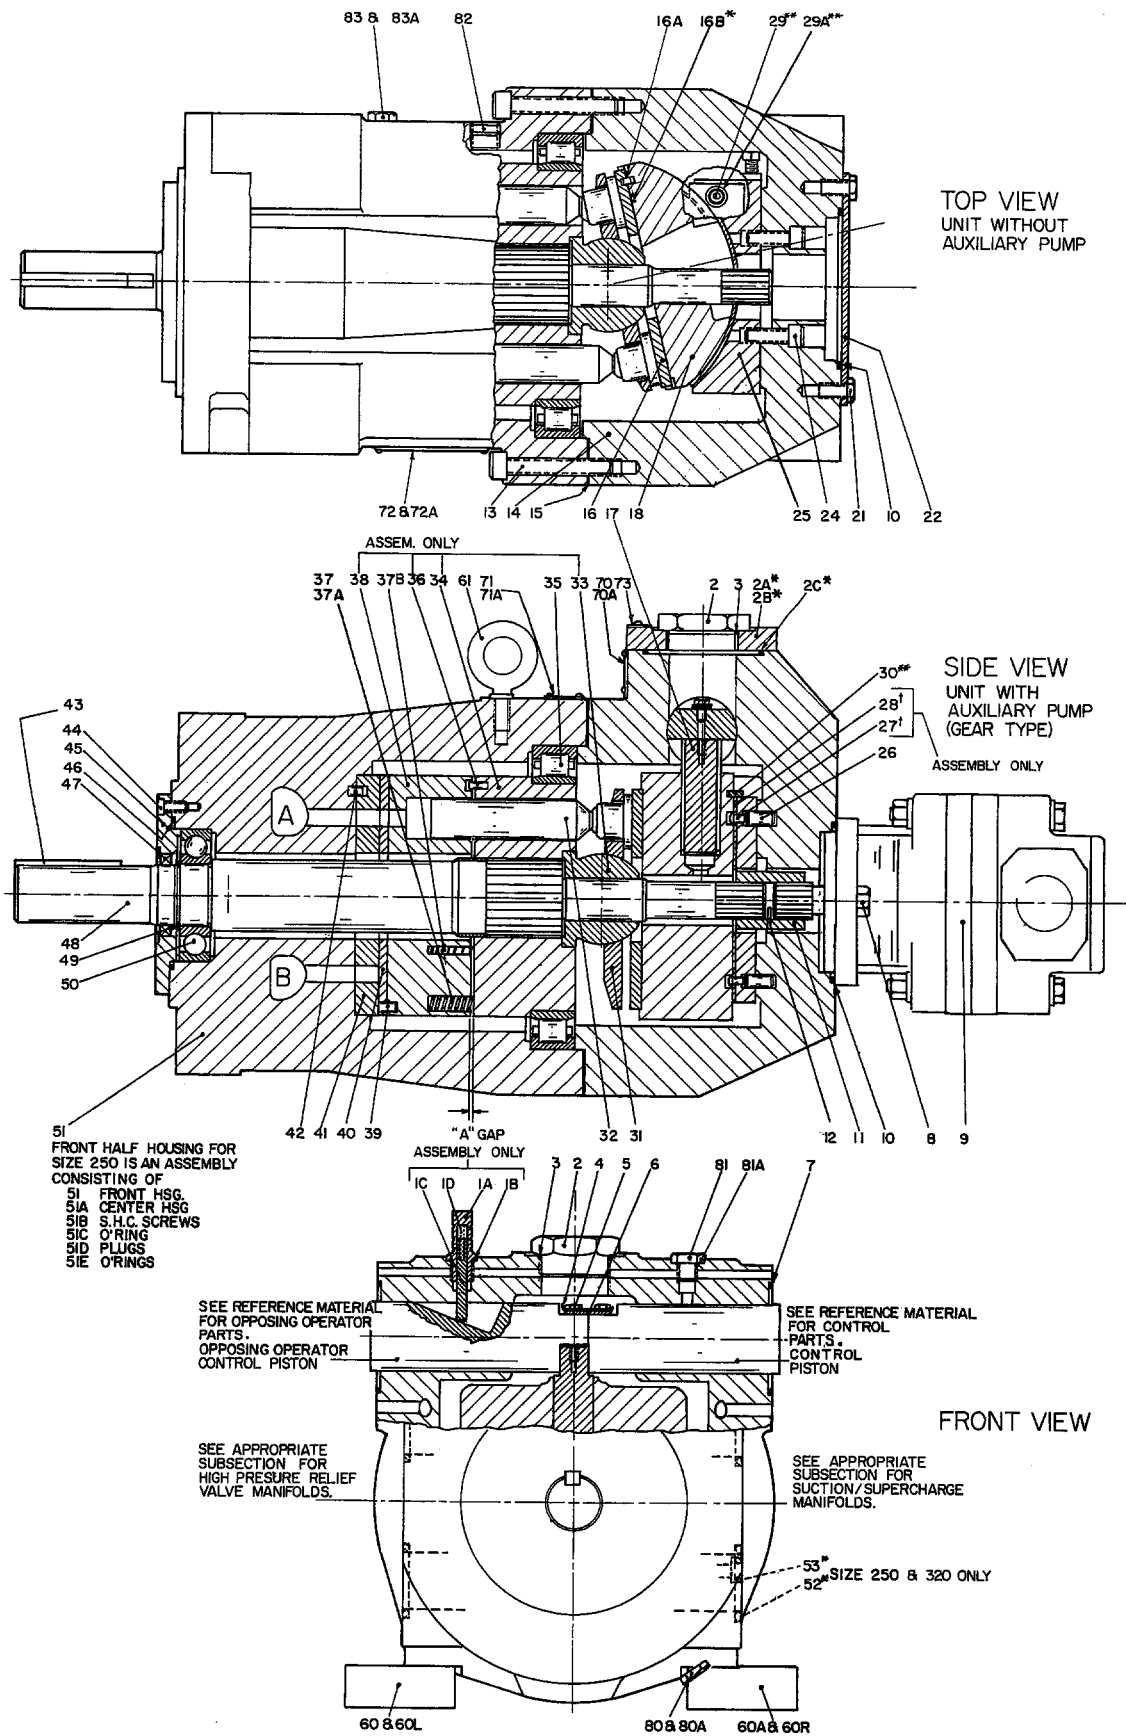

Figure 8. Parts Drawing, "PVL" Pumps (509464 sh. 3).
See Figure 8. If necessary, reassemble per manufacturer's instructions. Insert o'ring (10) into bore. Slide gear pump spline coupling (11), with roll pin (12) onto gear pump assembly (9) shaft and insert assembly into rear housing bore until spline coupling engages spline or rear driveshaft. Fasten with screws (8).
See Figure 8. Insert control piston into case bores until they both engage cradle control pin. Be sure piston with slot is on indicator side of pump. When used, align holes in control coupling link (6) and washer (4) with thread tap in control piston. Tighten screws (5) all the way down. After tightening, loosen one turn and bend up a corner of the washer to lock screws in place. Install cradle pin access plug (2), with o'ring (3) in place. Install stroke indicator assembly (1). See reference material for assembly of control and opposing operator. Install o'rings (7), then secure control and operator to pump.